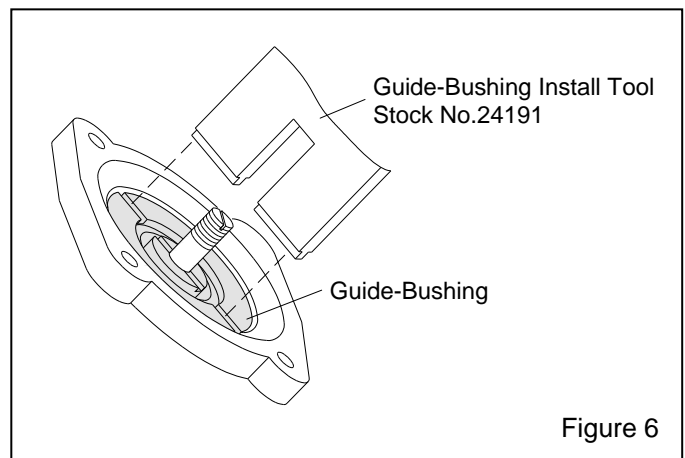

Figure 6
Refer to Figures 6 and 7
4.3.2 Insert the guide-bushing installation tool, stock no. 24191, into the slots on top of the guide as shown in Figure 6, and use a large adjustable wrench to unscrew the guide-bushing from the body. Lift the stem to remove the bushing and disc assembly.